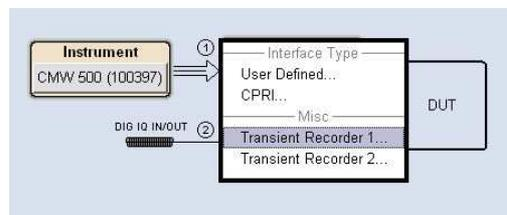

Figure 18: Selecting a transient recorder
- ▶ Click *config* in the module block for the desired R&S EX-IQ-Box. Select *Transient Recorder 1* or *2* (see Figure 18):